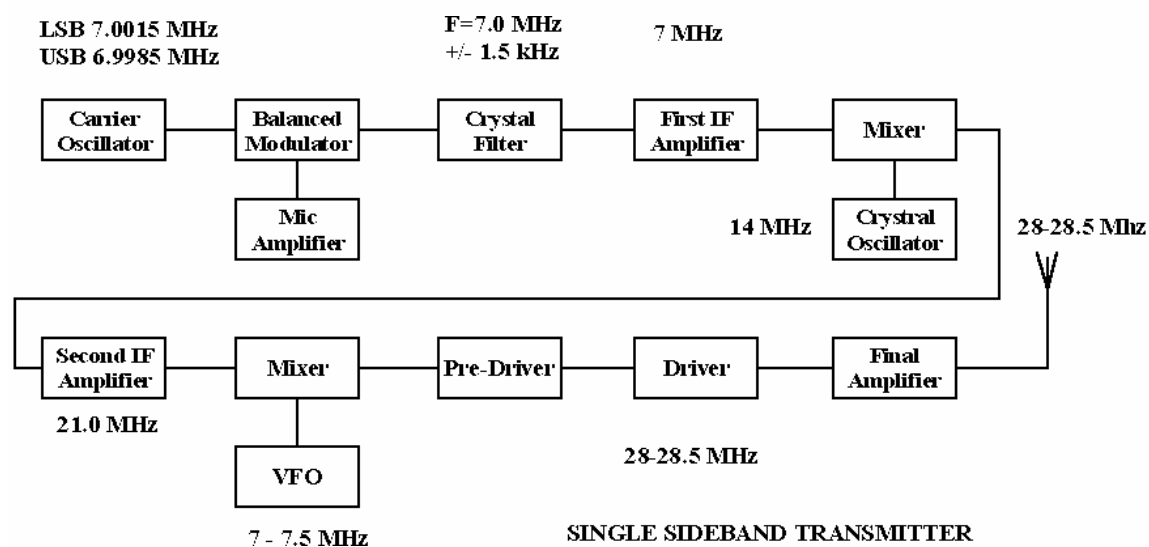

Figure 4.
The block diagram of figure 4 is that of an SSB Transmitter (TX) which will operate between 28 to 28.5 MHz. The **carrier oscillator** produces the radio frequency voltage necessary to heterodyne with the modulating audio voltage in order to convert the audio signals to radio frequencies.